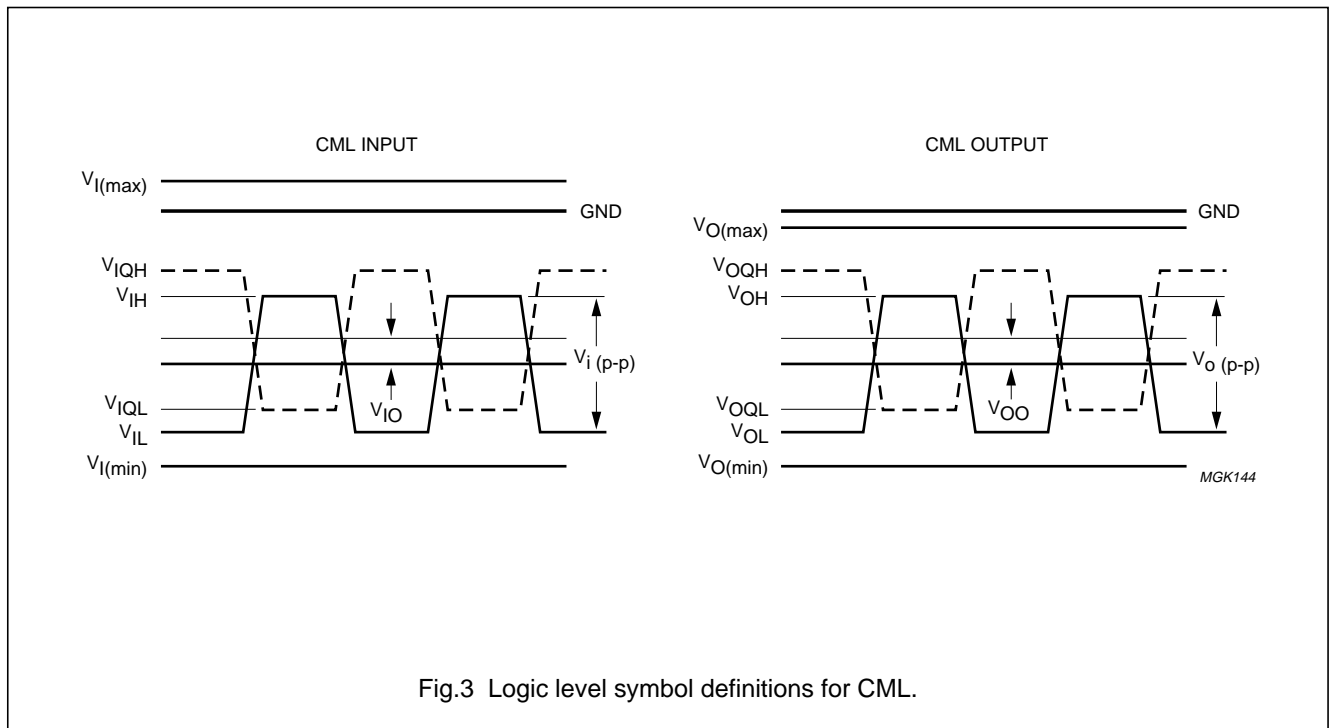

Fig.3 Logic level symbol definitions for CML.
3. See Fig.3 for symbol definitions.